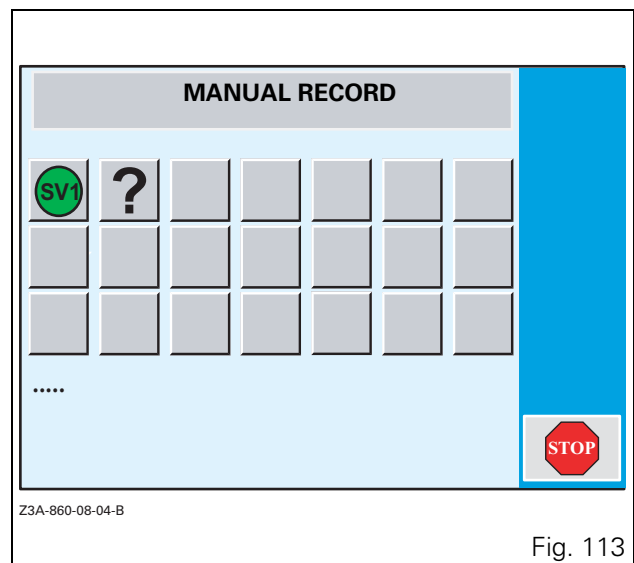

Fig. 113
- Select an action by rotating the encoder and validate by pressing it (e.g.: Fig. 113).